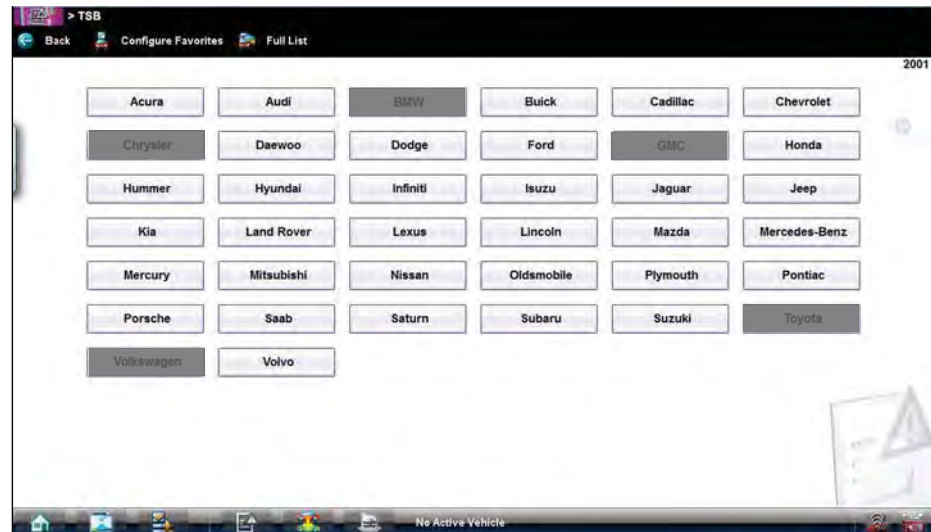

Figure 10-11 Typical - Configure favorites window
1. From the Vehicle Manufacturer selection window, select **Configure Favorites** from the menu. The vehicle manufactures selection window opens (Figure 10-11).